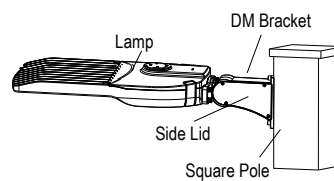

Figure 23
Step 2: Place the connected wire into the junction box, then cover the junction box (Figure 23).